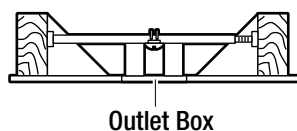

Figure 3
- You may need an installation hanger bar as shown in Figure 3 (available at your Retailer) to hang your fan where there is an existing fixture but no ceiling joist.